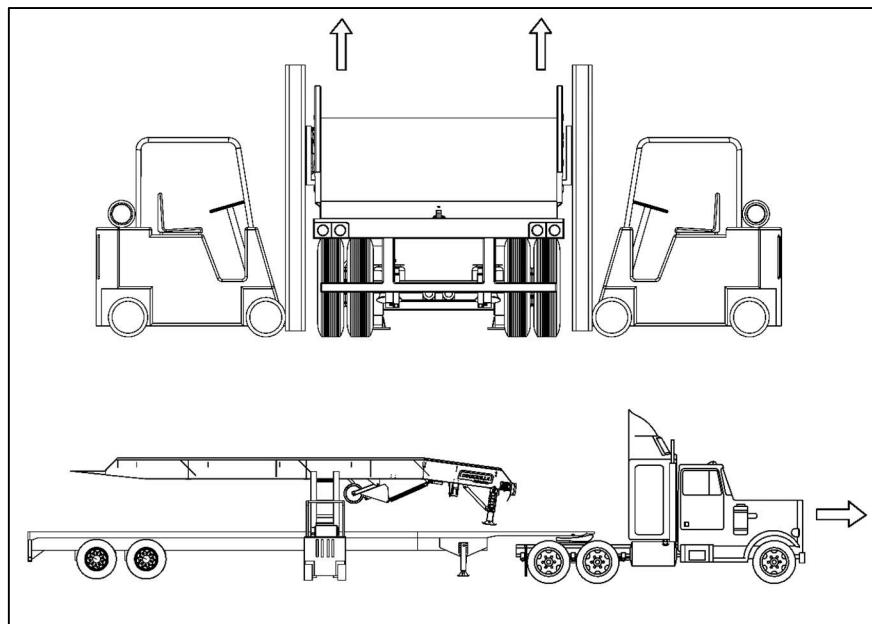

Figure 2c. Offloading with two forklifts
- a. **TWO FORKLIFTS:** Position a forklift on both sides of the loading dock as shown in Figure 2c. Fully insert forks on either side of the “FORKS HERE” tab so that both sides of the ramp are supported by a forklift. Simultaneously lift the ramp just high enough to verify the stability of the load. Lift the loading dock further to allow adequate clearance from the trailer, then drive the trailer forward until there is enough space to lower the ramp to the ground. To move the loading dock into its final position after it has been removed from the trailer, see “Moving the Loading Dock”.